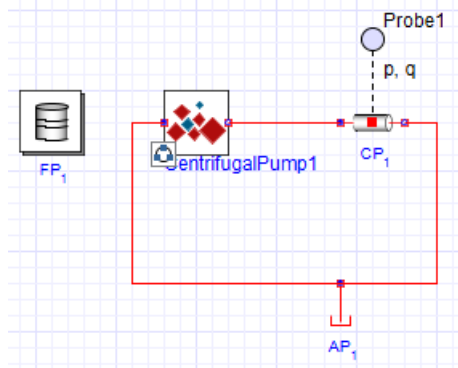

Figure 6.12: Centrifugal Pump Custom Component
20. Drag the custom component into the **Model Workspace** and create the model shown in **Figure 6.12** using the specified model components and their settings from **Table 6.5**.